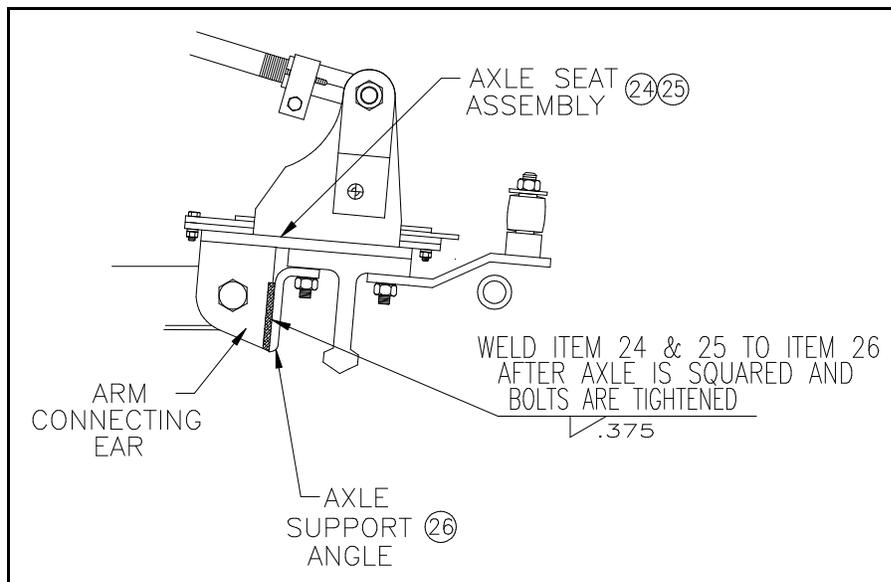

Figure 5-2
2. Bolt axle seats and lower axle support angle to axle. (8) Grade 8 capscrews, nuts & lockwasher) after axle is squared with axle seat, tighten bolts and weld axle support angle to axle seat arm connecting lugs. See Figure 5-2.